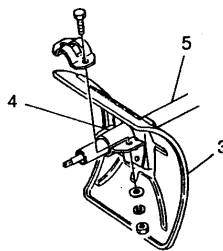

Fig. 2
2. Install safety cover (3) and the collar (4) of Mini-cultivator by insetting onto shaft pipe (5) and fix it temporarily keeping the model name on the cover upright.(Fig.2)